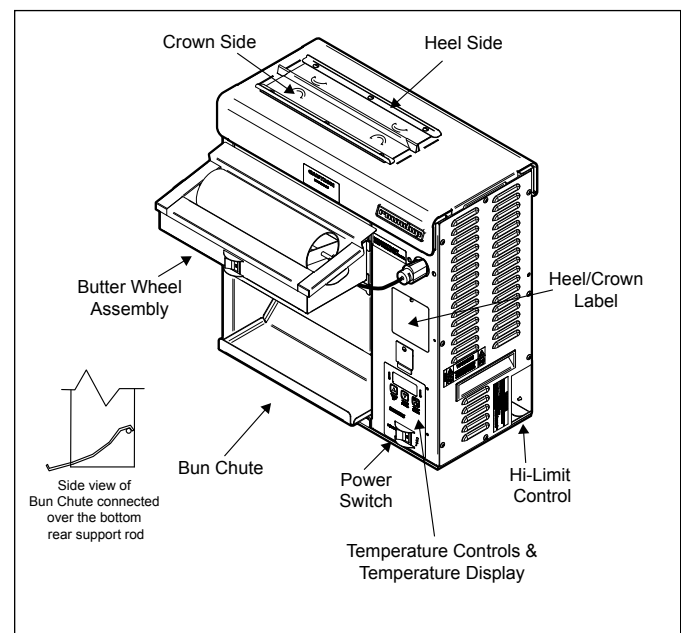

Figure 1. VCT-2010 Vertical Contact Toaster
NOTE: The factory has pre-installed a Release Sheet over the Platen (Figure 1). Verify that it is properly in place before proceeding.
2. Install the Bun Chute so the hooks are installed over the lower rear yellow Support Rod (Figure 1).
3. Hang the Butter Wheel Heated Base on the front of the unit and install the Butter Pan and Butter Wheel inside. (Figure 1).
IMPORTANT: Make sure Heat Shield is activating the Conveyor Safety Interlock Switch (Figure 1). The conveyors will not rotate unless the Heat Shield is in place and its weight is pressing down on the Conveyor Safety Interlock Switch.